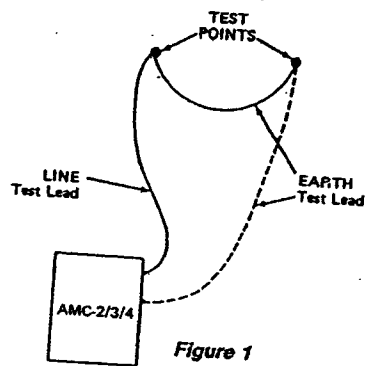

Figure 1
Equipment under test with the megohmmeter may build up a capacitive charge from the testing. With the AMC-2/3/4, you can (1) wait a few minutes for the charge to dissipate or (2) remove the test lead from the EARTH jack on the tester and touch to the equipment terminal that the other test lead (LINE) is connected to. See Figure 1.
K_{40c} = temperature coefficient of insulation resistance as observed for temperature t°C see Fig. 1